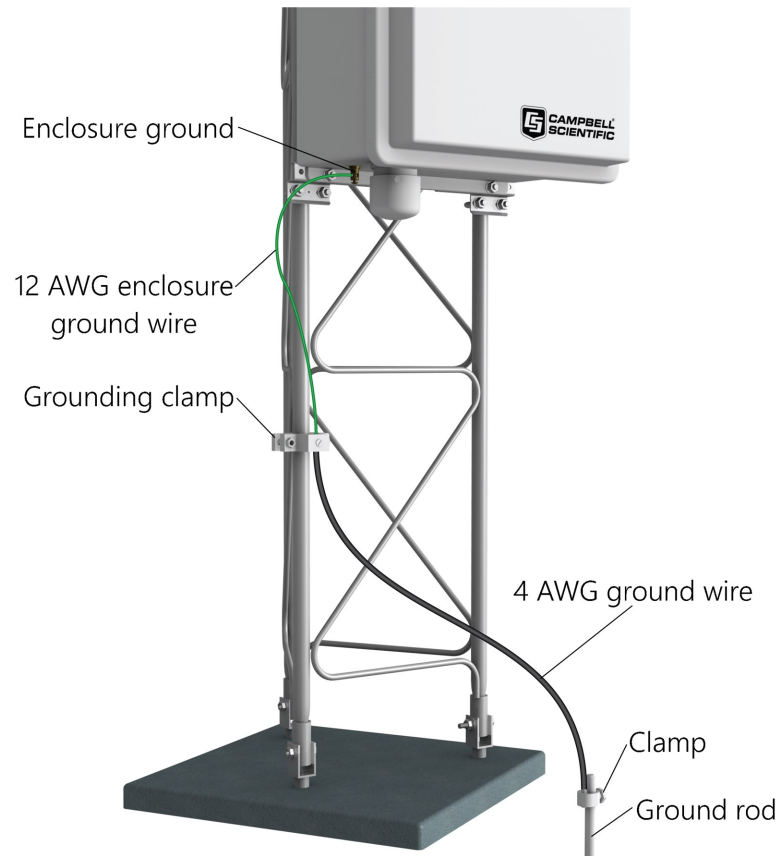

FIGURE 7-10. Tower grounding clamp
1. Drive the ground rod close to the tower (FIGURE 7-10 (p. 19)) using a fence post driver or sledgehammer. Drive the rod at an angle if an impenetrable hardpan layer exists. In hard clay soils, a gallon milk jug of water can be used to “prime” the soil and hole to make driving the rod easier.
3. Attach the tower grounding clamp to a tower leg (FIGURE 7-10 (p. 19)). Route the 4 AWG wire attached to the ground rod up the tower leg to the grounding clamp. Loosen the set screw and insert the 4 AWG wire and the 12 AWG enclosure ground wire into the hole behind the set screw and tighten the set screw. Route the green wire to where the enclosure will be installed.